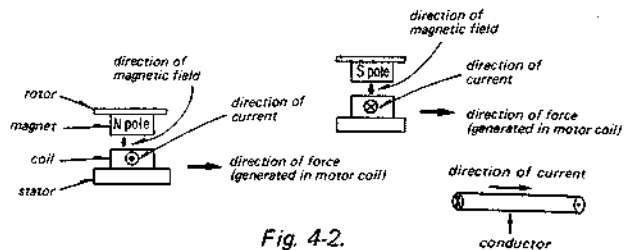

Fig. 4-2.
**Generation of Rotational Force (See Fig. 4-2)**